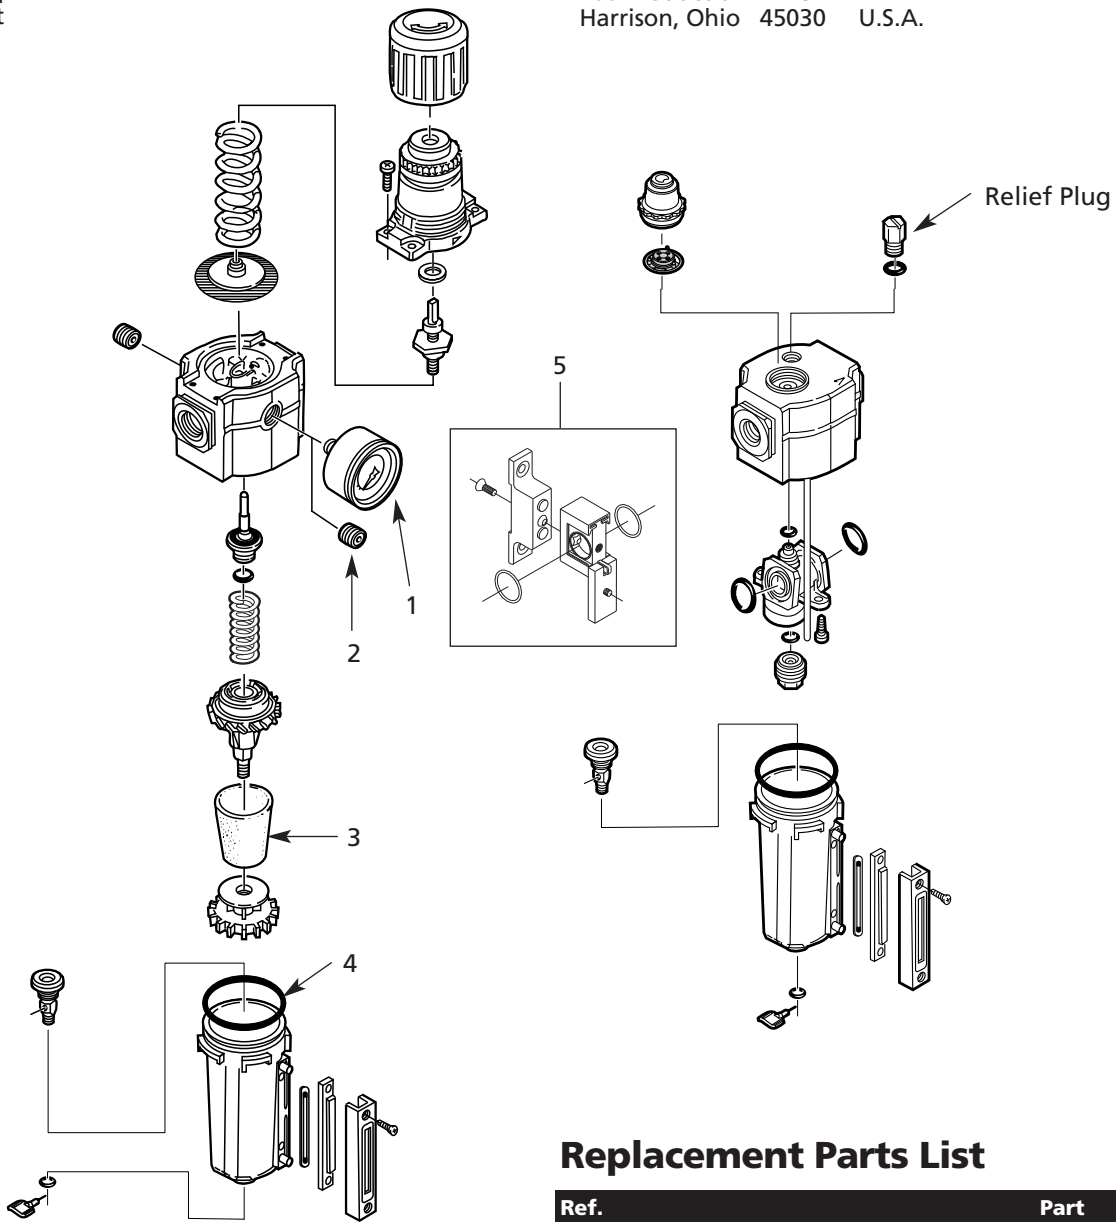

Figure 2
2. Remove plug from plastic bag. Use PTFE thread sealant tape on the threads and install securely in the port opposite the gauge (See Figure 2).
- The lubricator can be refilled while the system is under pressure. **Slowly** remove relief plug to allow relief of air pressure (See Figure 2). After the relief plug has been removed, the bowl can also be removed. Pour oil into the bowl and replace. **Replace relief plug before resuming operation.** Do NOT replace the relief plug until the bowl is securely locked in place.